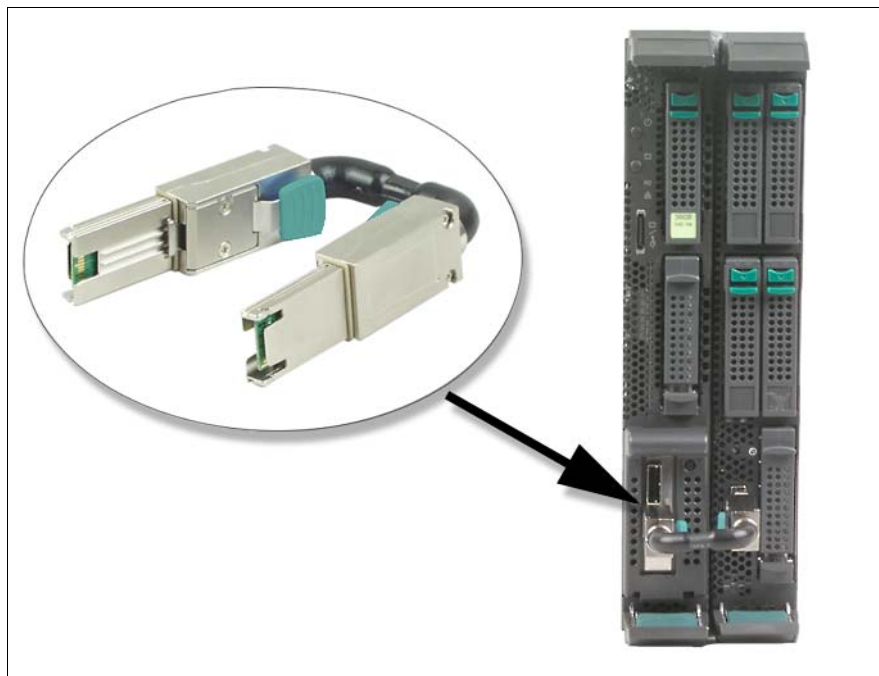

Figure 9: Connecting the storage blade
- ▶ Remove the miniSAS cable from the SAS connectors of the storage blade and the server blade (see figure 9).